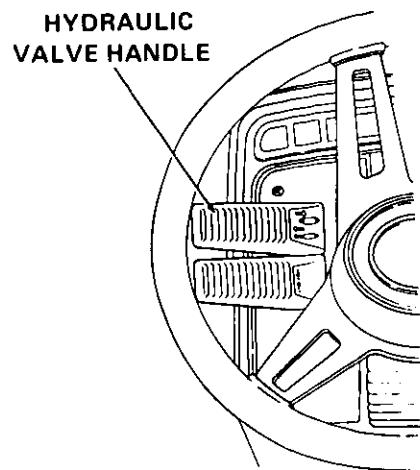

Figure 14
- For tractor Models 1782 and 2182 only, install the hydraulic valve handle per instructions in part C, steps 1.a. through 1.d. Refer to Figure 14 for view of properly installed valve handle.